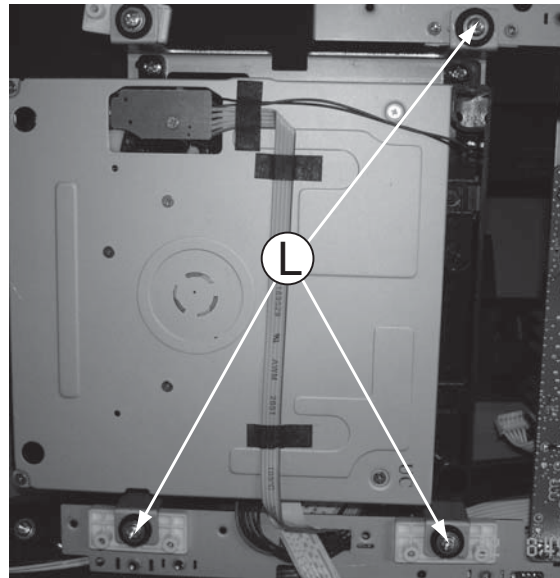

Figure 13
1) Loosen 3 screws "L" at the power PCB bracket bottom to remove DVD module as shown in figure 13.